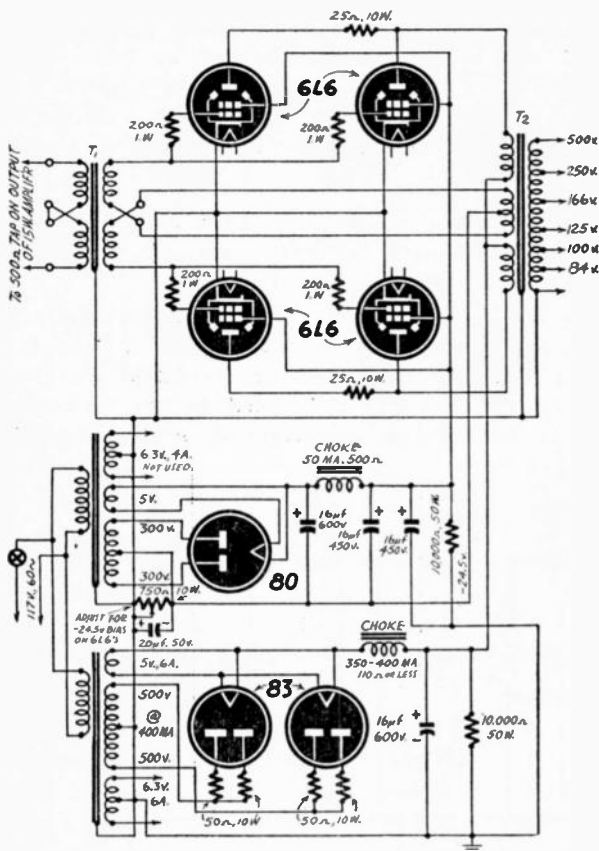

Fig. 404
A. The diagram (Fig. 404) shows a 100-watt amplifier with power supply. If you have a good 15-watt driver, it should give more than ample power for driving the booster. Perhaps you have a power supply, but a good one has been shown so that you may check it. Approximately 400 milliamperes plate current is required by the 6L6's at maximum signal. The grid bias voltage should be adjusted before the plate voltage is applied. In construction you may find that the grid, screen, and plate leads need shielding.